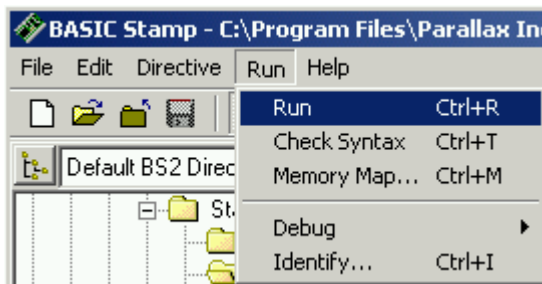

Figure 1-40
- ✓ Click *Run*, and select *Run* from the menu that appears (by clicking it) as shown in Figure 1-40.
Run your modified program. Hint: you will have to either click Run from the Run menu again, like in Figure 1-40, or click the Run button, like in Figure 1-42.